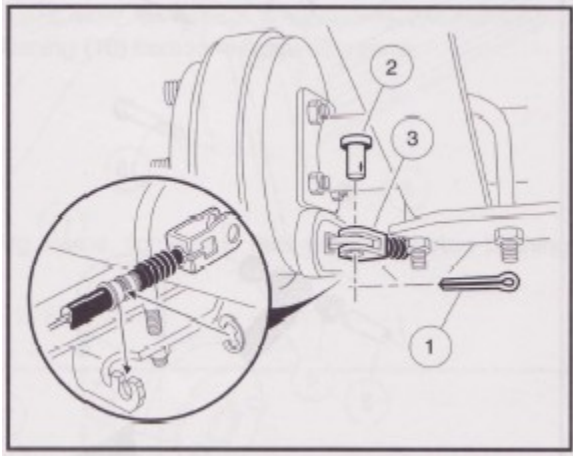

Figure 9-3
4. Remove the cotter pin (1) and the clevis pin (2) at the brake lever and brake cable connection and pull the clevis (3) away from the lever (Figure 9-3). Detach the brake cable from the shock mount bracket.
5. Remove the nut (5), cup washer (9), and rubber bushing (10) from the lower mounting stem of the shock absorber.
6. Remove the nuts (14) and the U-bolt (11) securing the spring to the transaxle. Remove the shock mount bracket (16) and the U-bolt.
7. Remove the bolt (15) and nut (2) attaching the rear spring to the shackle (1).
8. Remove the nut (2) and bolt (15) attaching the front of the spring to the vehicle frame and remove the spring.
9. Inspect the bushings (4) and spacers (3) in the spring eyes and replace them if they are worn or damaged.